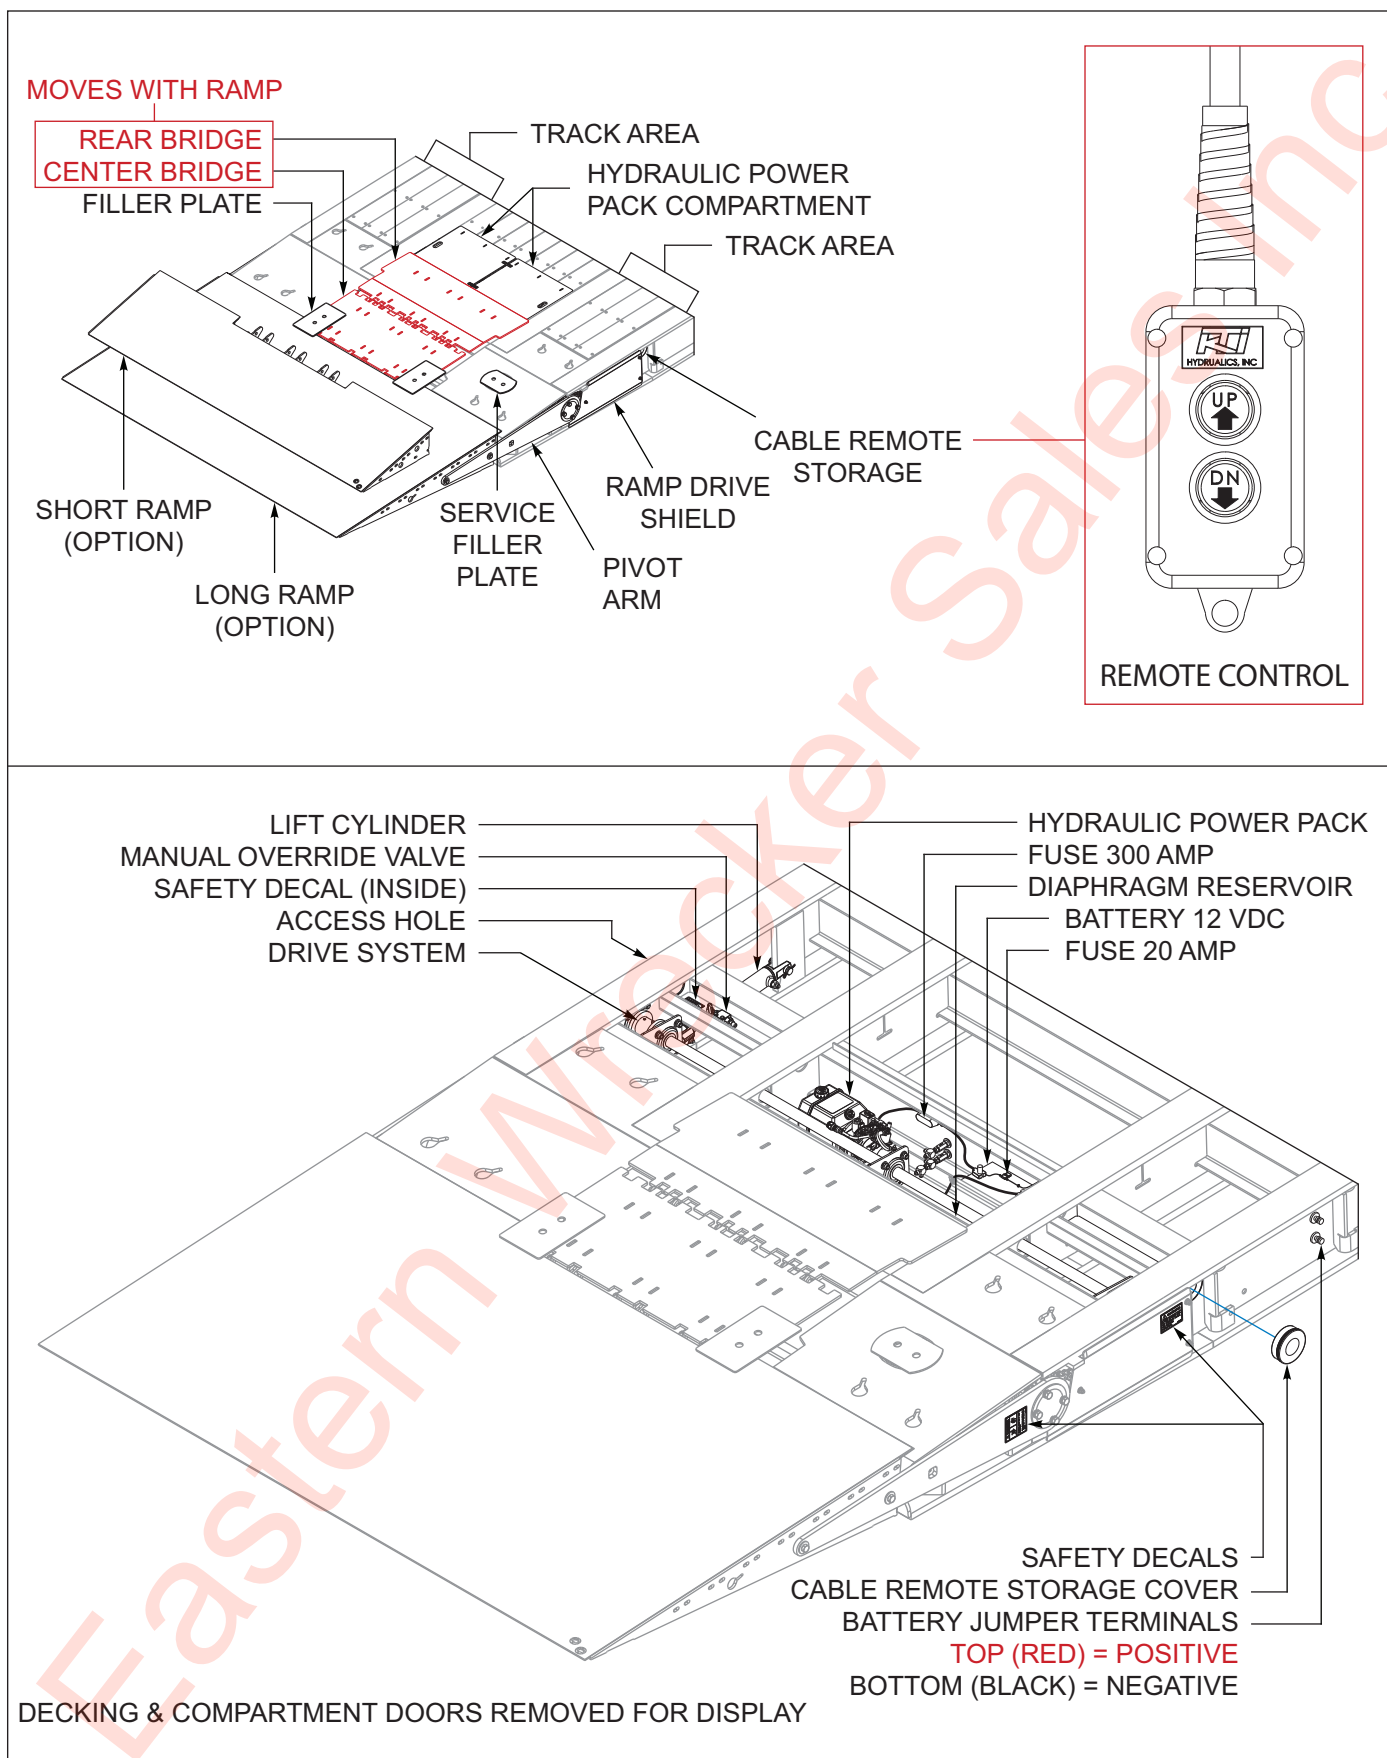

Figure 3-24: Front Power Ramp Components (Option)
See Figure 3-24 on Page 3-24.
Press and hold the remote control up button to raise the ramp to the fully up position. *See Figure 3-24 on Page 3-24.*
1. Using a 12-vdc Portable Power Pack or 12-vdc Jumper Cables, attach to the Trailer Battery Jumper Terminals. These are located to the right of the streetside ramp drive shield and remote control storage compartment. The top terminal is POSITIVE (RED), and the bottom black terminal is NEGATIVE (BLACK). *See Figure 3-24 on Page 3-24.*
2. Stand on the track area of the trailer, standing clear of the center and rear bridge movement, *See Figure 3-24*. Watch for Pinch Points and Trip Hazards, slowly push the ramp over to the down/load position.